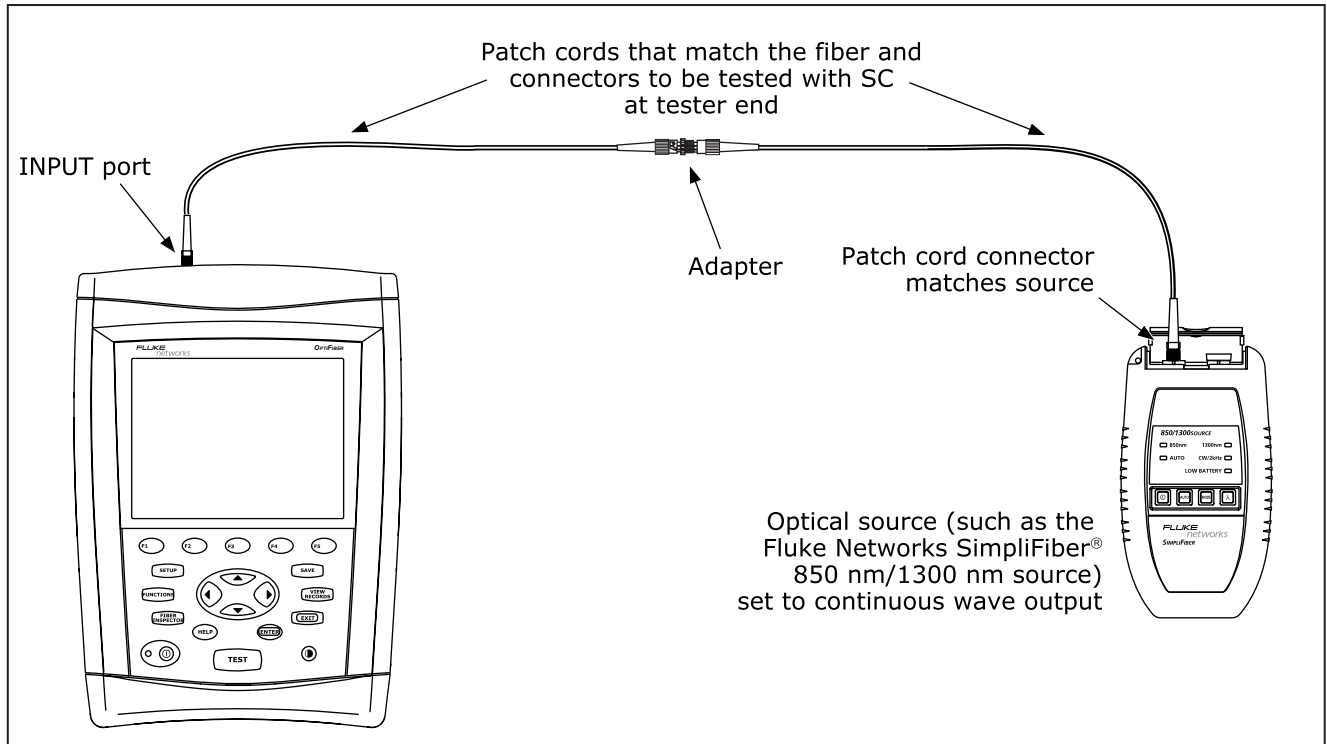

Figure 6-9. Far End Source Mode Reference Connections
6. Make the connections shown on the **SET REFERENCE** screen and in Figure 6-9.